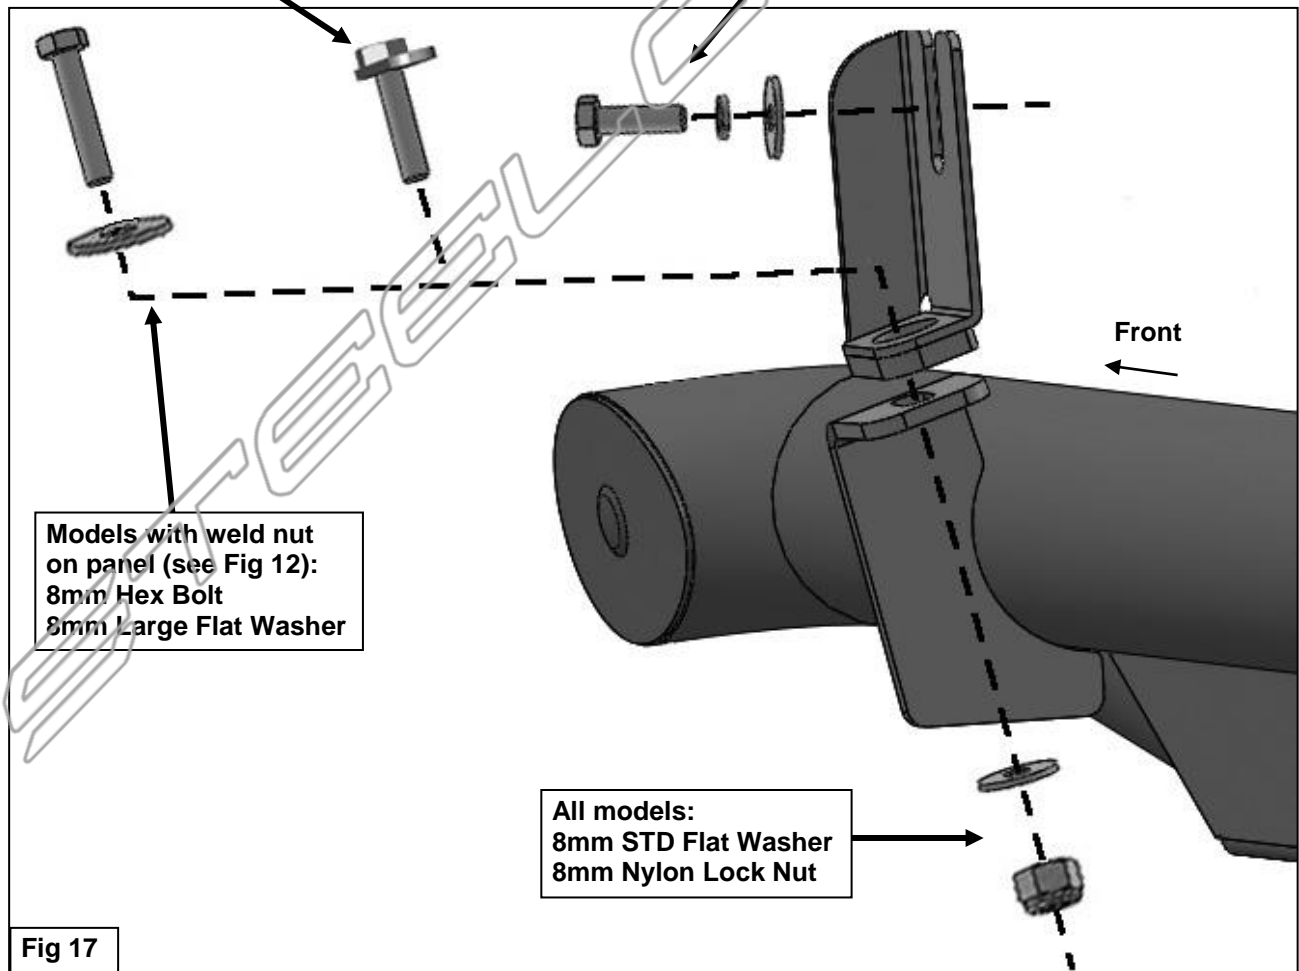

Fig 17
- a. **Models with a weld-nut:** Slide the Bracket over the weld-nut, **(Figure 12)**. Insert (1) 8mm x 40mm Hex Bolt with (1) 8mm x 28mm Large Flat Washer down through the threaded hole in the weld nut and Upper Bracket, **(Figure 17)**. Tighten all hardware attaching Upper Bracket only.
10. Line up the front mounting tab on the HD Side Step with the Upper Bracket. Attach the mounting tab to the Hex Bolt or Bolt Plate in the bottom of the body panel with (1) 8mm x 24mm Flat Washer and (1) 8mm Nylon Lock Nut, **(Figure 17)**. Do not tighten hardware at this time.